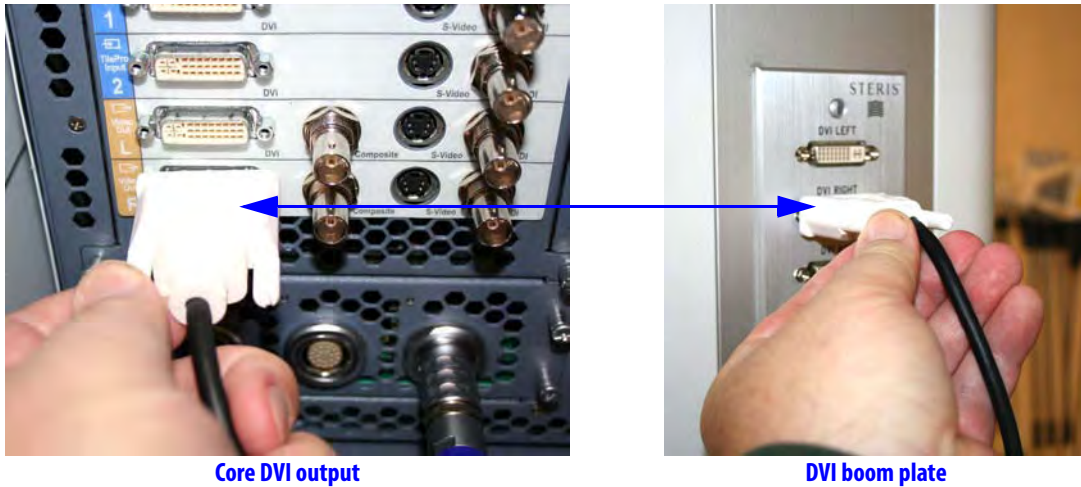

Figure D.10 Example of DVI connection from Core to boom plate
1. Connect each video output or *TilePro* input on the back of the Core to the desired interface plate, monitor, or third party device. Figure D.10 shows a typical connection from the DVI output to a DVI boom interface plate that supports connection to an OR video switching system.